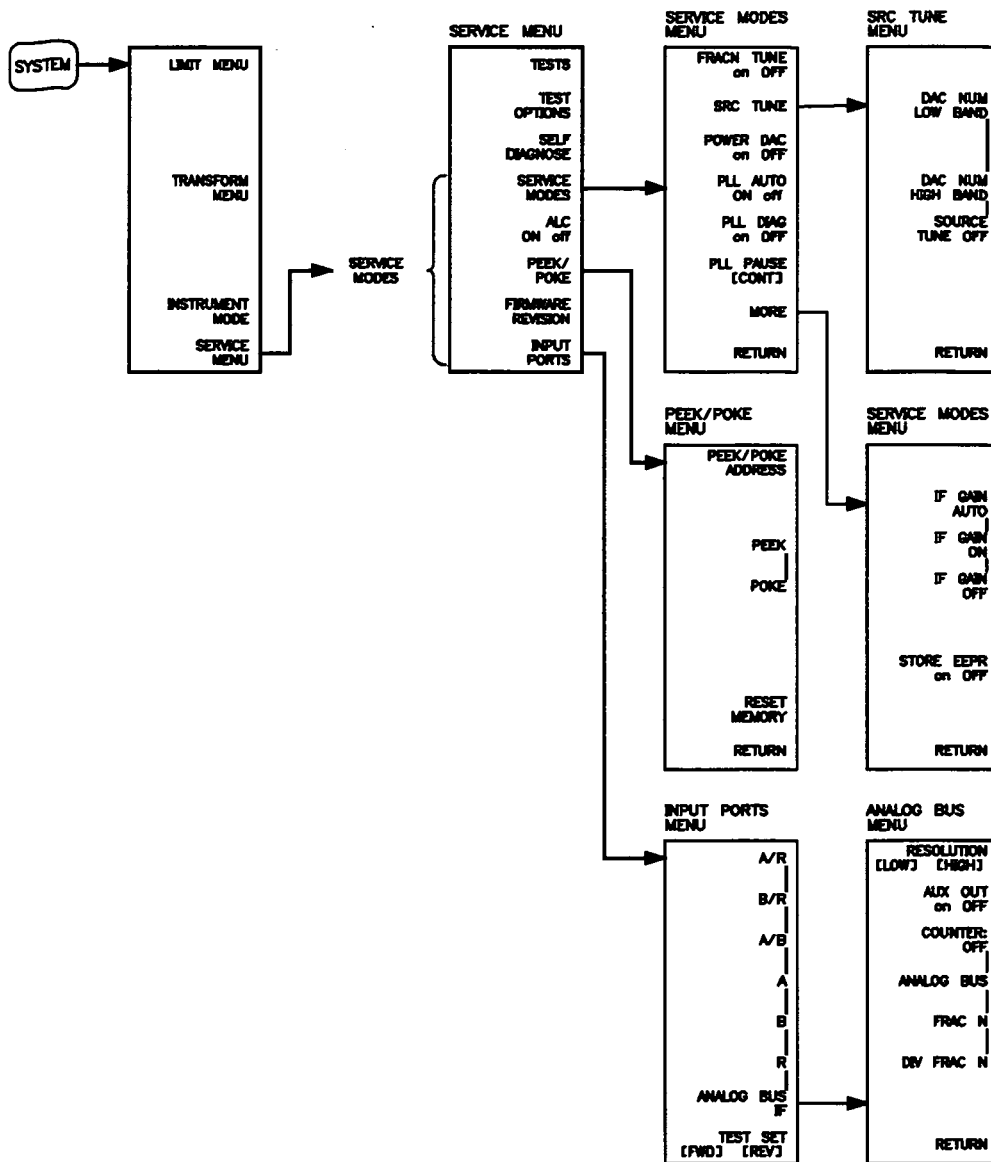

Figure 13-2. Service Modes Menus
**SYSTEM** **SERVICE MENU** **SRC TUNE** to access the menu (shown in Figure 13-2.)